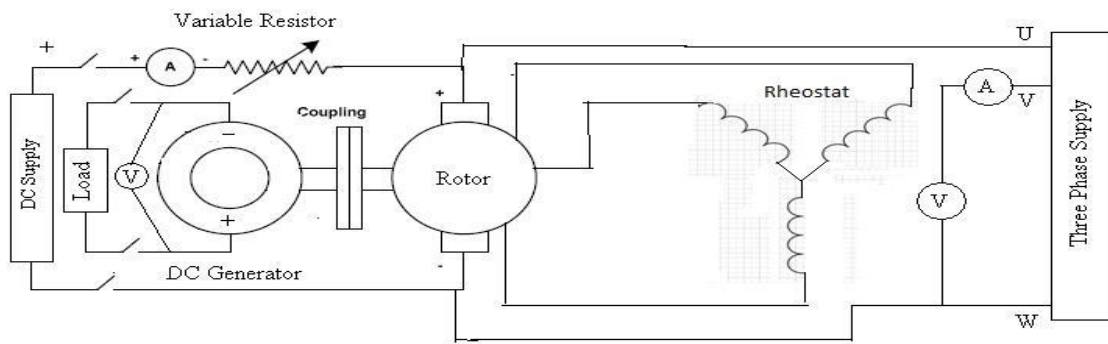

Figure 14.2. Starting of Induction motor
1. According to the given diagram shown in Figure 14.2 connect the different electrical wires.